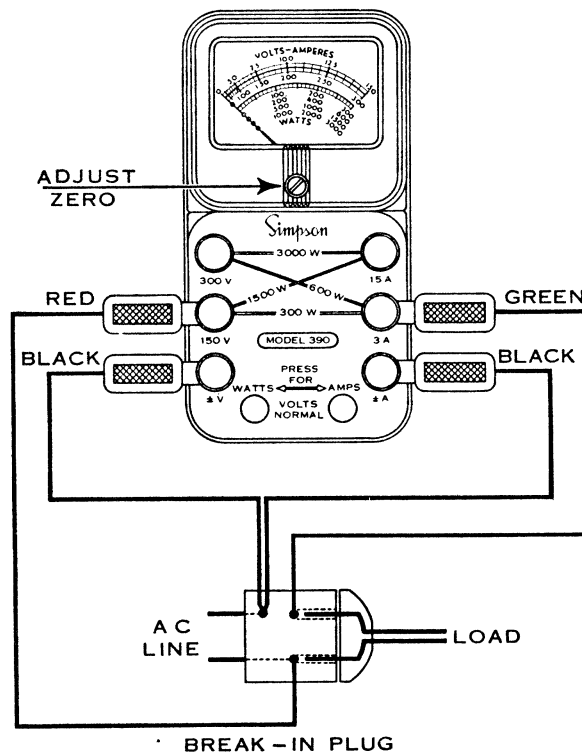
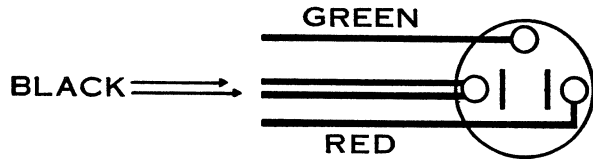

Figure 2. Model 390 Volt-Amp-Wattmeter--Method of Connecting Break-in Plug for 150V, 3A and 300W Ranges
Figure 8. Bottom View of Break-in Plug, Showing Cable Connections.
ZERO ADJUSTMENT: Be sure that the pointer is on zero before taking any readings. If the pointer is off zero, adjust the setting by means of the slotted screw located in the bakelite case directly below the meter scale as shown in Figure 2. Use a small screwdriver to turn this adjustment slowly to the right or left until the pointer is directly over the zero point on the scale. Occasionally a static charge may accumulate on the meter glass and attract the pointer. This can be discharged by breathing on glass.
a. Connect the leads from the break-in plug according to color as shown in Figure 2. In order to use the 150V range connect the red lead to the terminal marked 150V as shown. The red lead should be connected to the terminal marked 300V, when the 300V range is to be used. For easy identification, the 150V and 300V terminals have a red dot in the centers and the 3A and 15A terminals have a green dot in the centers to correspond to the colors of the leads from the break-in plug.
a. Connect the leads from the break-in plug according to color as shown in Figure 2. In order to use the 3A range connect the green lead to the terminal marked "3A" as shown. When the 15A range is to be used, connect the green lead to the terminal marked "15A".
c. Plug the appliance to be checked into the break-in plug as shown in Figure 2.
a. Connect the leads from the break-in plug according to their color as shown in Figure 2. When the green lead is connected to the 3A terminal and the red lead is connected to the 150V terminal as
a. Connect the red lead from the break-in plug to the 300V terminal. Connect the black leads to the $\pm V$ and $\pm A$ terminals as shown in Figure 2. When the green lead is connected to the 3A terminal, the line on the panel between the 300V and 3A terminals indicates that the 600 watt range is being used. When the green wire is connected to the 15A terminal, the range is 3000 watts as indicated by the line on the panel connecting the 300V and 15A terminals.
In cases where it is not convenient to use the break-in plug for checking power, four wires or test leads can be used. For line voltages up to 150, connect the $\pm V$ and 150V terminals across the line and the $\pm A$ and 3A or 15A terminals in series with the load for the 300 and 1500 watt ranges respectively. A study of Figure 2 will make these connections clear.
The special break-in plug supplied permits connection across the line for voltage measurements and in series with the load for current measurements. These connections are clearly shown in Figures 2 and 6. Figure 8 shows the connections of the cable to the plug.